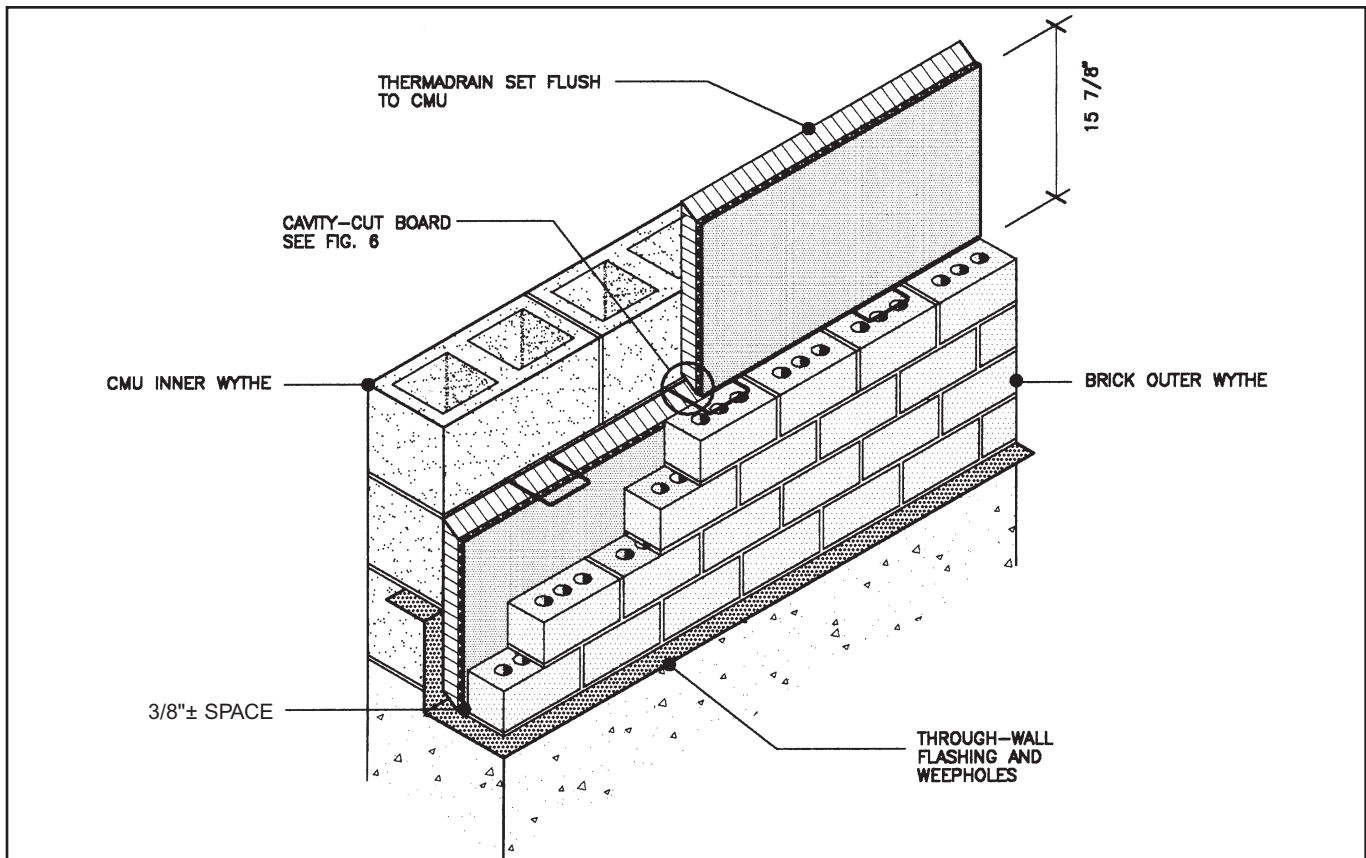

Figure 1. Typical Drainage Wall With ThermaDrain®
*ThermaDrain*® eliminates the need for a clean airspace in drainage walls. *ThermaDrain*® is ideal for use in cavity wall and masonry veneer wall construction. (Fig. 1)